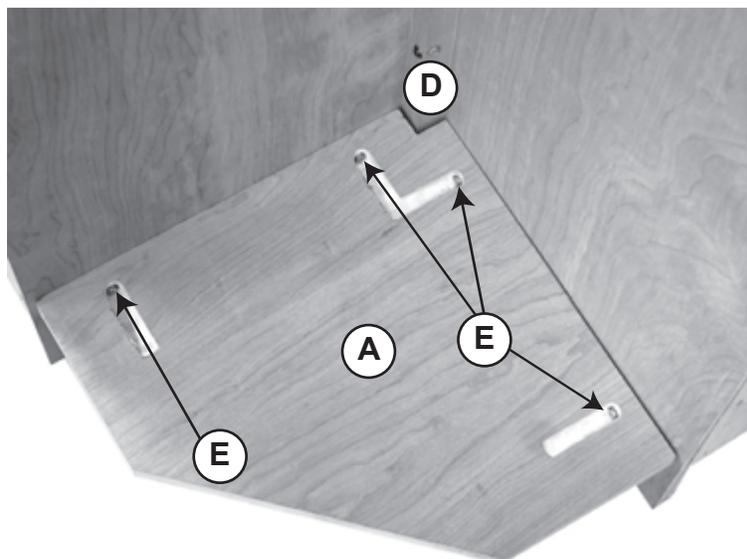

Fig. 2
2. Making sure the pocket-drilled holes face up, align the holes in the Lower Corner Brace (A) to the predrilled holes in the sides of the bookcases. Attach with four #8x1-1/4" Pan Head Screws (E). See Figure 2.